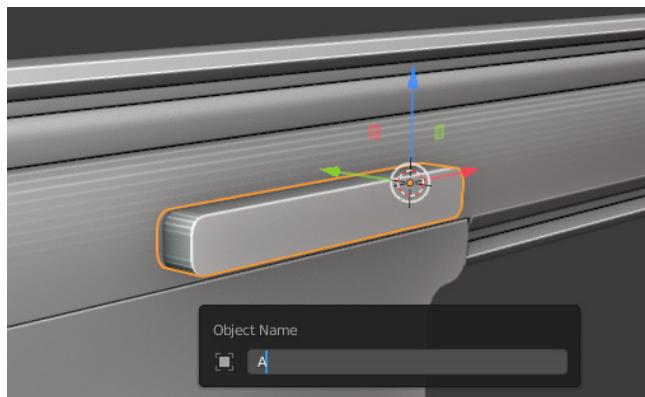

Figure 3.18 – Object Name
- Add a cube with beveled edges that clips through the receiver just a little, like in *Figure 3.18*. Use the reference image we created at the beginning of *Chapter 2, Creating Basic Shapes for an FN SCAR*, to locate exactly where this should be placed.